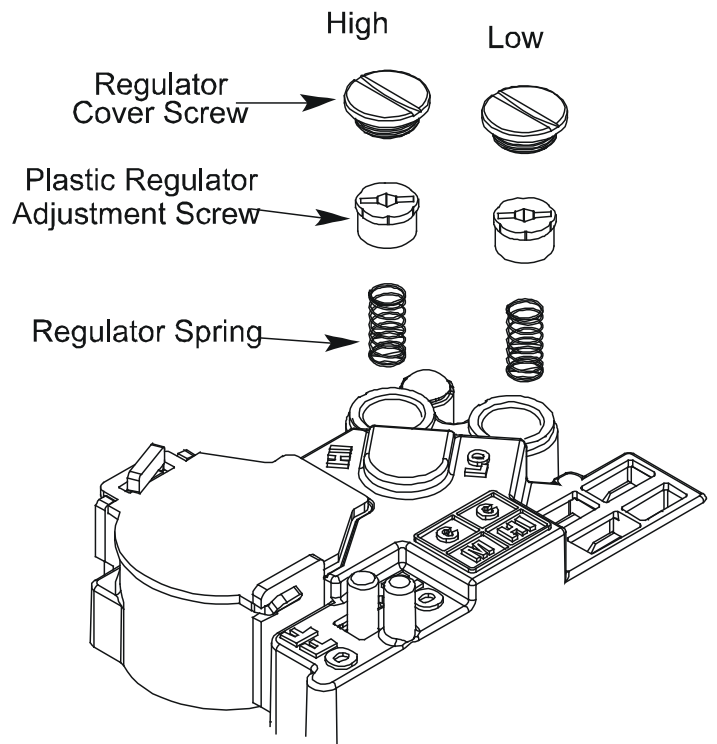

FIG.3 White-Rodgers 36G54 Springs and Regulator Screws
- Using a 3/32" Allen wrench included in pressure check kit, loosen the inlet pressure tap screw one (1) turn only (DO NOT REMOVE).
10. Remove both regulator cover screws on the gas valve. See Figure 3.